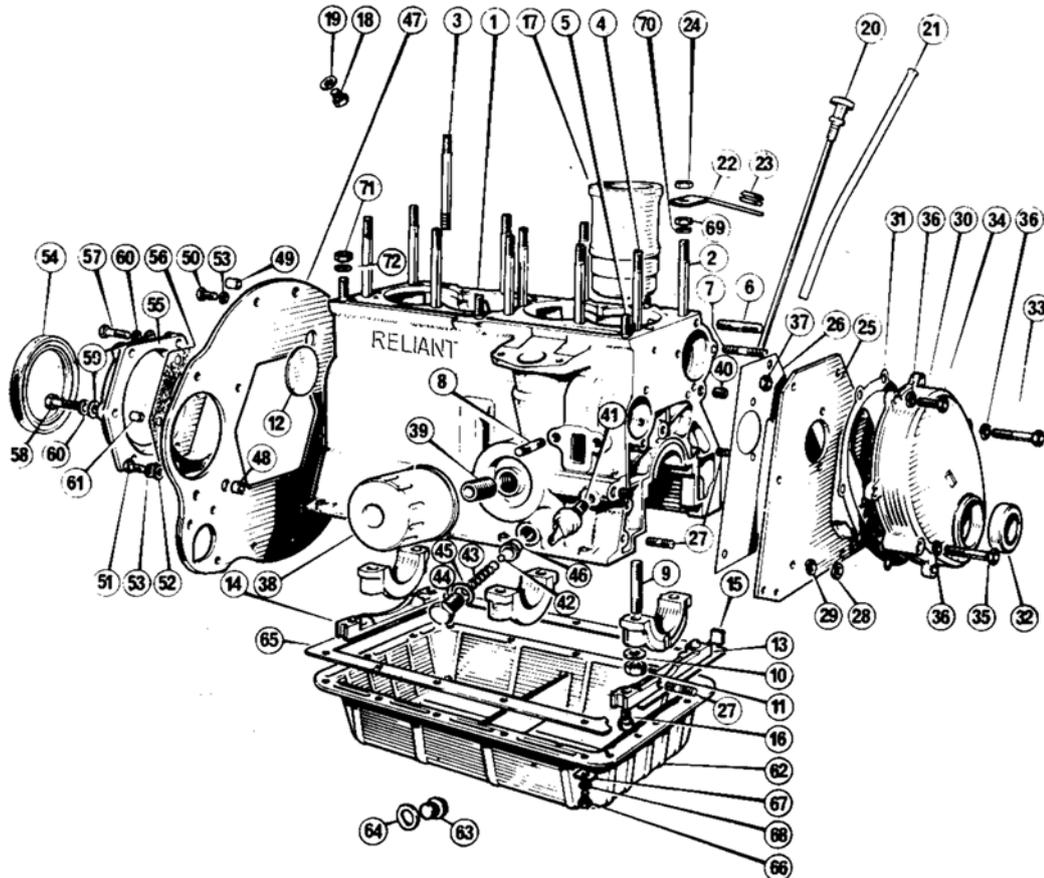

Figure 2 Cylinder block, 700 cc, later vehicles 750 cc
1. Clean the mating face between the flywheel and the end of the crankshaft. Check that the locating dowel is undamaged and ensure that the spigot bush (needle bearing on 750cc) is in place. Check the bush for wear. If wear is evident then knock the old one out and fit a new one using special tool no. RT 7485 (**Figure 2**). Needle roller bearings have been used as an alternative to the phosphor bronze bush and care must be taken when replacing these. It is vital to note that the hardened square end face of the bearing must face the tool used to press in the bearing. Use of the rolled end of the bearing will distort the shell and damage the rollers. In many cases the part number or makers name will be stamped in to the hardened end to aid identification. If this does not apply, great care must be observed to identify the correct end.